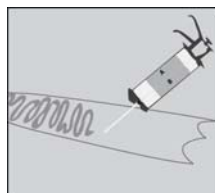
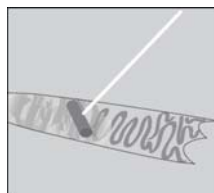

Figure 7:
Figure 8:
5. The amount of sealer in one 300/600 ml cartridge will be sufficient for applying 45 sq. ft. of PreMark® material. **Note: It is critical that the sealer does not cure up before the PreMark® material has been applied and heated, therefore do not apply sealer to an area larger than what can be heated in 20 minutes.** Holding the tip of the nozzle above the application area, squeeze out an appropriate amount of sealer. *See Figure 7.* Using the roller provided spread out the applied sealer over the selected application area. *See Figure 8.* Do not apply sealer outside the chalk line. The sealer should appear as a light coat of paint, leaving a shiny surface. **Do not wait for the sealer to cure up before applying the PreMark® material.**